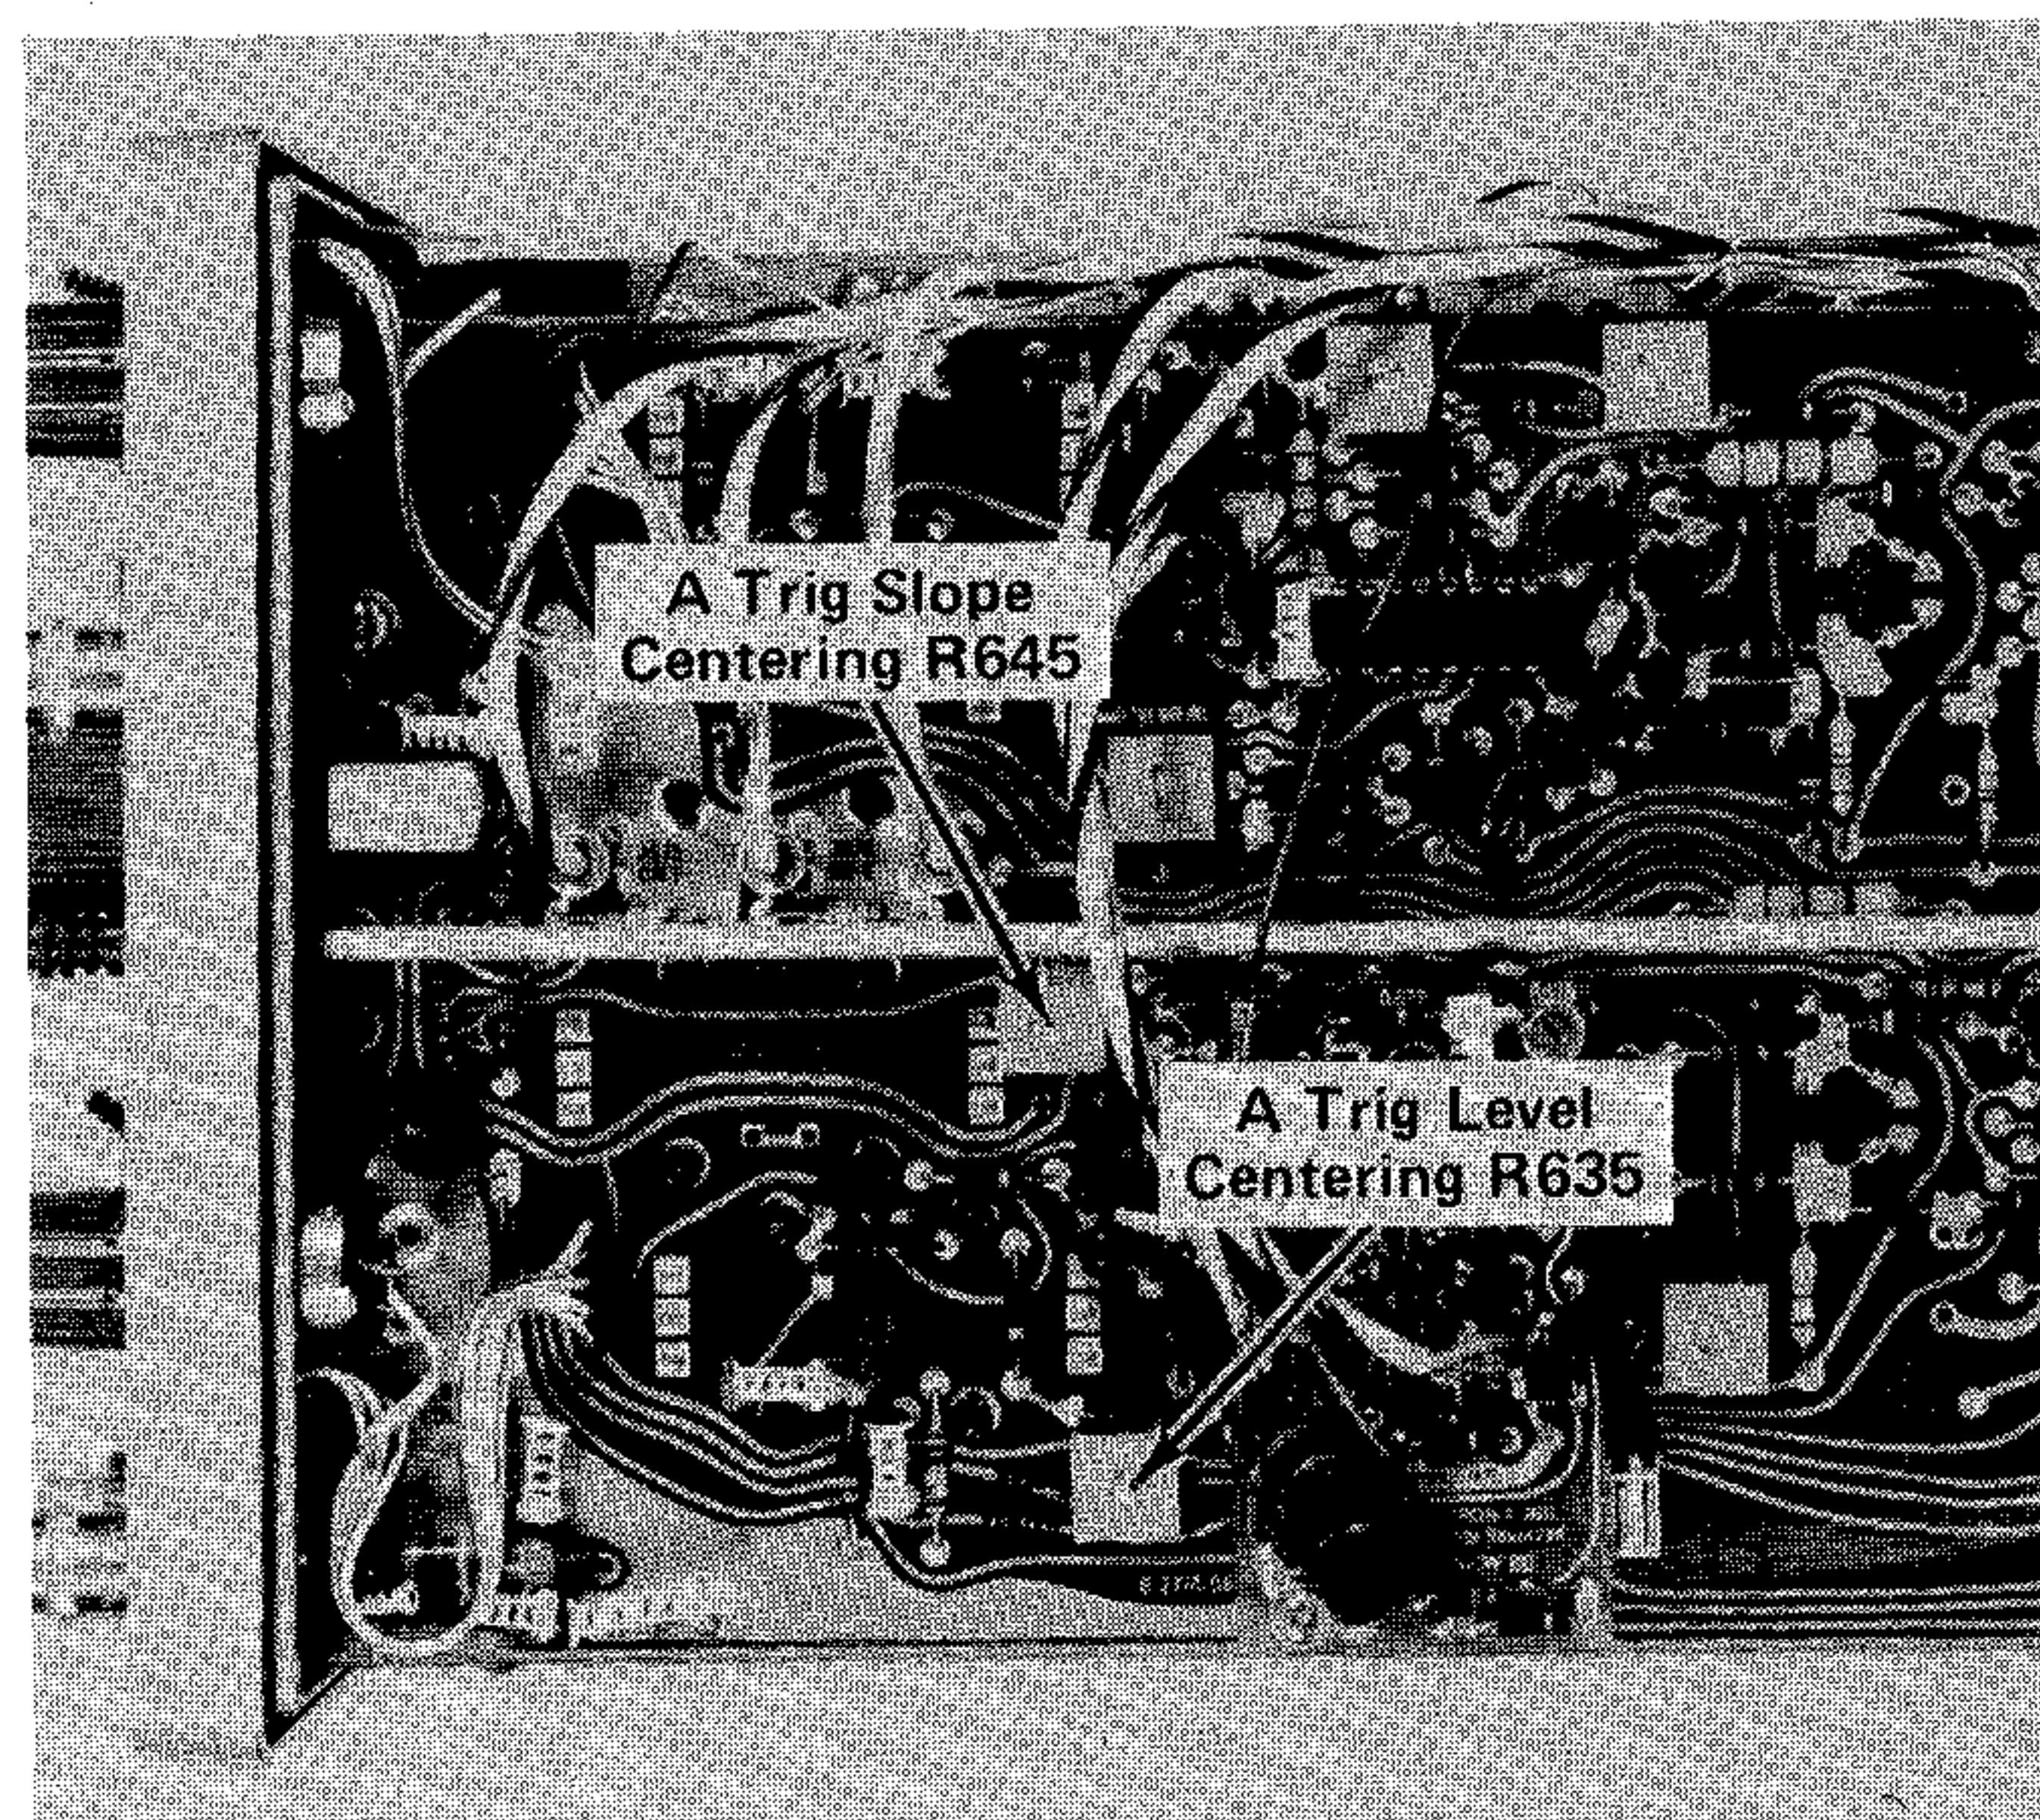

Fig. 5-26. Location of A Trigger Slope Center and Level Center adjustments.
c. ADJUST—A Trigger Level Centering adjustment, R635, (see Fig. 5-26) for the trigger point of the display to be at the graticule center, and adjust the B Trigger Slope Centering adjustment, R645 (see Fig. 5-26) so that the trace begins at the graticule center in both the + and — slope.